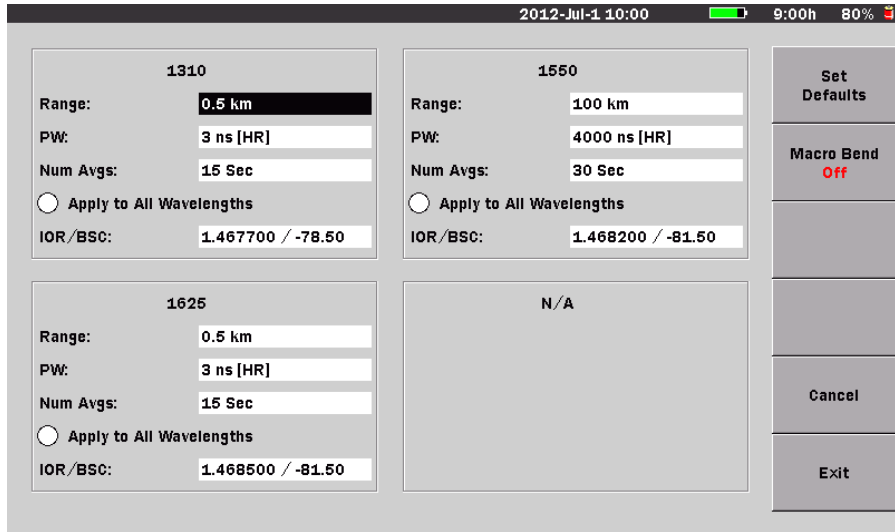

Figure 4-28: OTDR Parameters Screen
When the **Wavelength** softkey (f3) is set to “All”, the f4 softkey legend changes to “Test Parameters”. Pressing **Test Parameters** (f4) displays the OTDR Parameters screen (see Figure 4-28 on page 4-79) which contains access for the following test parameter settings:
- With the Wavelength softkey (f3) set to **Wavelength All**, press **Test Parameters** (f4). The OTDR Parameters screen (see Figure 4-28 on page 4-79) appears.